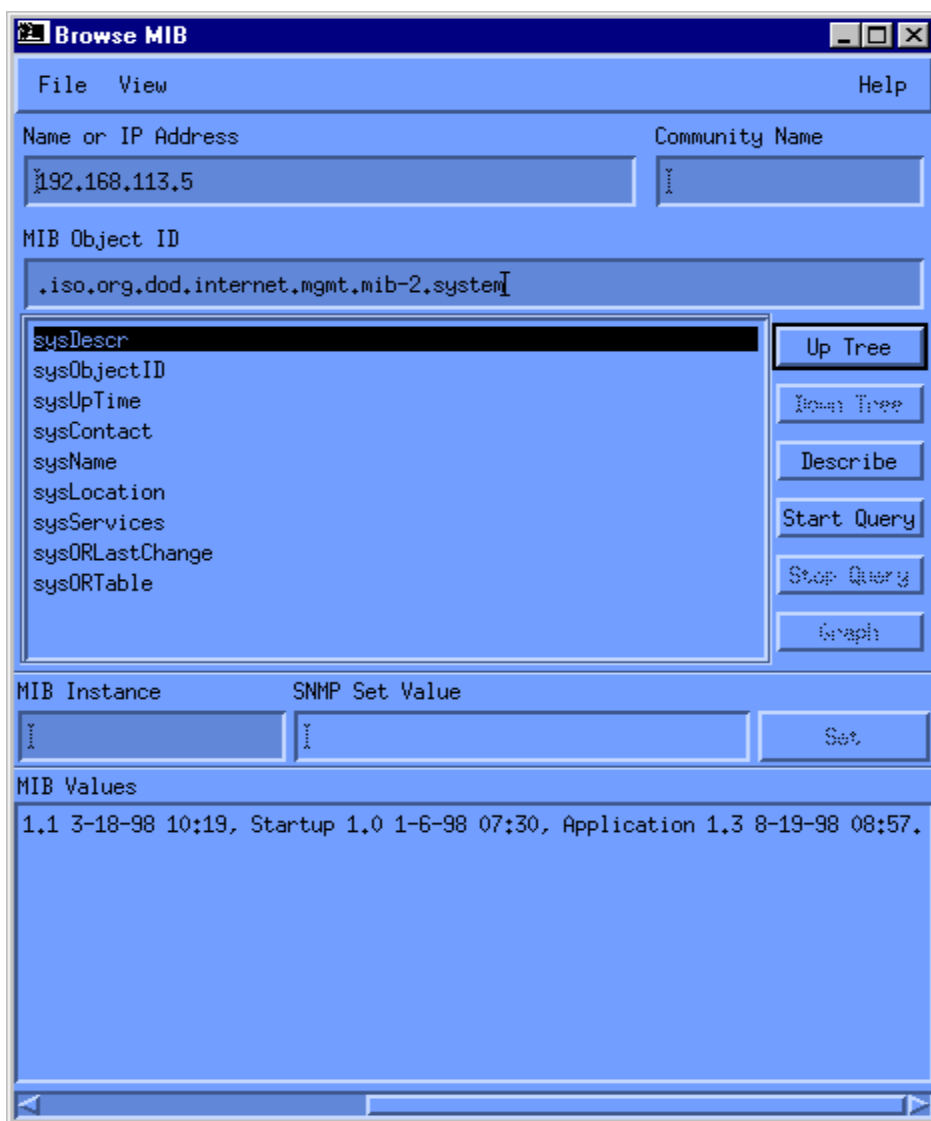

Figure D-3. System Description
1. Log on the MIB Browser again, as follows: iso.org.dod.internet.mgmt.mib-2.system.sysDescr; the MIB Browser window showing the system description is displayed (see *Figure D-3*).